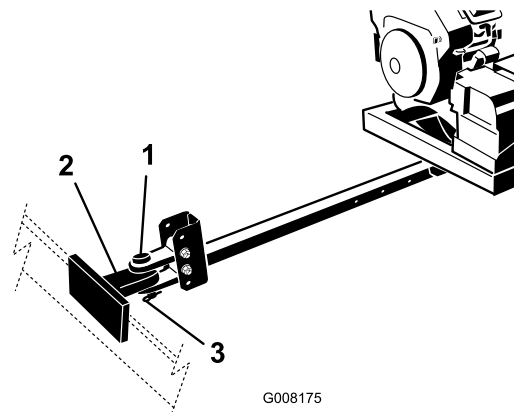

Figure 6
4. Connect the blower clevis hitch to the tow vehicle hitch with the hitch pin and clevis (Figure 6).